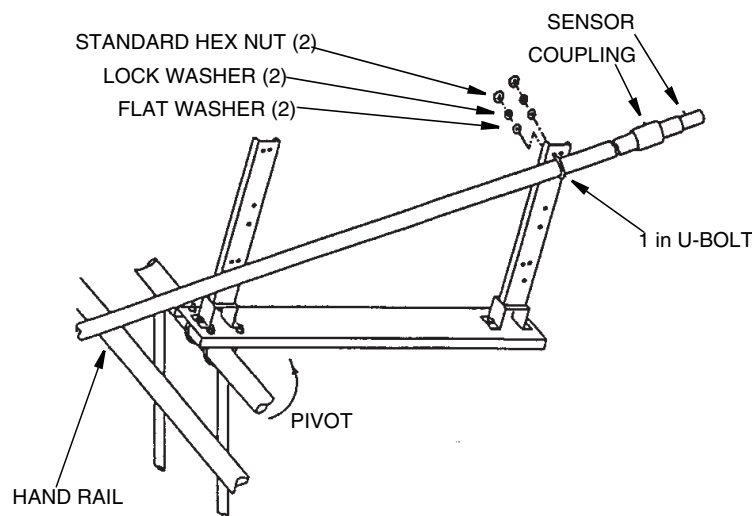

Figure 6. Attachment of Pipe to Lower Extension Arm
- Bring extension pipe with installed sensor toward lower extension arm (flat side). Fasten 1-in U-bolt around extension pipe (behind coupling) to lower extension arm (in desired location) with hardware provided (flat washer, split lockwasher, standard hex nut). Fasten loosely to allow for depth adjustment. See Figure 6.